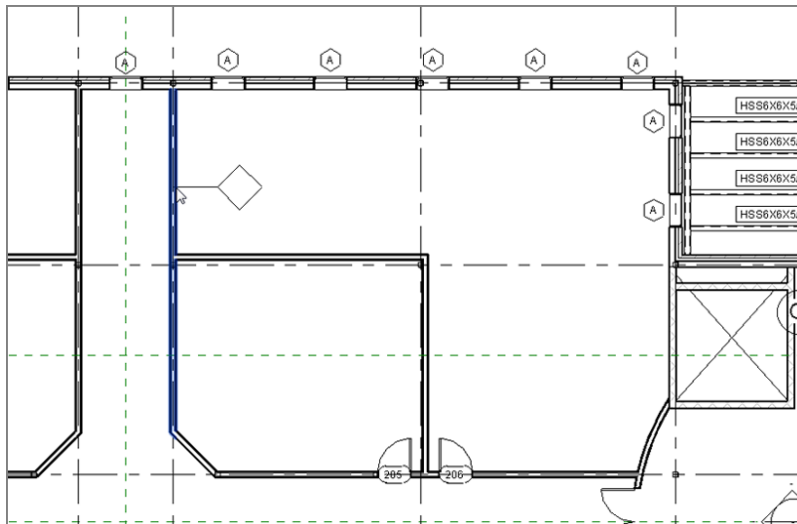

FIGURE 11.61: Picking one of the corridor partitions to tag
5. Pick the wall indicated in Figure 11.61.